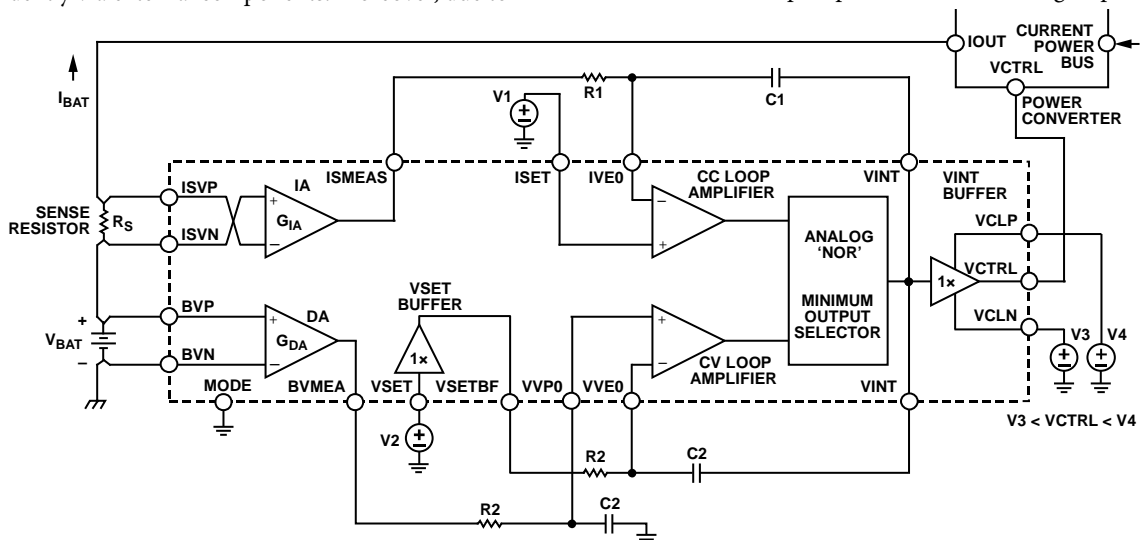

Figure 48. Functional Block Diagram of the CC and CV Loops in Discharge Mode (MODE Pin Low)
Figure 48 is the functional block diagram of the AD8451 CC and CV feedback loops for discharge mode (MODE logic pin is low). In discharge mode, the feedback loops operate in a similar manner as in charge mode. The only difference is in the CV loop amplifier, which operates as a noninverting integrator in discharge mode. For illustration purposes, the external networks connected to the loop amplifiers are simple RC networks configured to form single-pole integrators (see Figure 48).
Unlike simpler controllers that use passive networks to ground for frequency compensation, the AD8451 allows the use of feedback networks for its CC and CV loop filter amplifiers. These networks enable the implementation of both proportional differentiator (PD) Type II and proportional integrator differentiator (PID) Type III compensators. Note that in charge mode, both the CC and CV loops implement inverting compensators, whereas in discharge mode, the CC loop implements an inverting compensator, and the CV loop implements a noninverting compensator. As a result, the CV loop in discharge mode includes an additional amplifier, VSET buffer, to buffer the VSET node from the feedback network (see Figure 48).
The unity-gain amplifier (VINT buffer) is a clamp amplifier that drives the VCTRL pin. The VCTRL pin is the control output of the AD8451 and the control input of the power converter (see Figure 46 and Figure 48). The output voltage range of this amplifier is bounded by the clamp voltages at the VCLP and VCLN pins such that